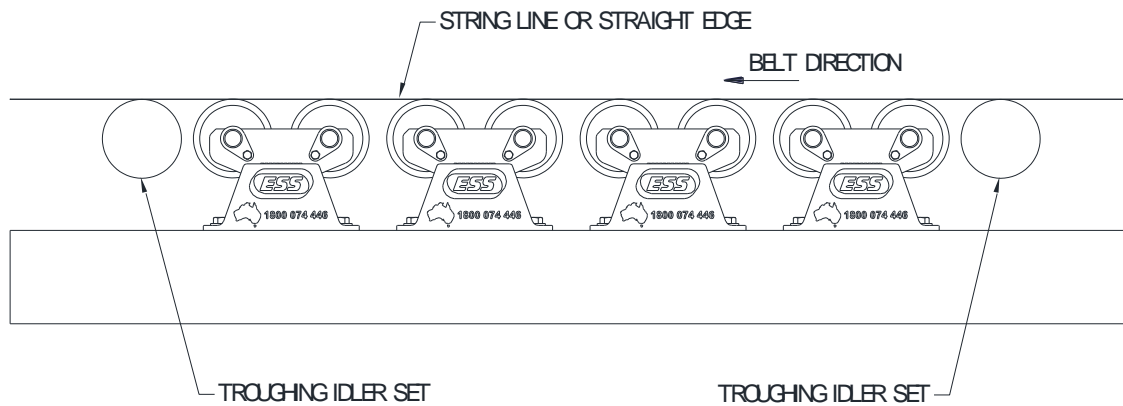

Figure 6 - Cradle Positioning
- Step 11. Using a string line or straight edge ensure that the top of the impact rollers is aligned with the top of the centre rollers of the impact idler frame (Fig 6). If they are not aligned, packing of either the impact cradle base or the impact idler frames may be necessary to achieve this alignment. Please note accelerated bar wear will result from insufficient clearance. Belt damage may result from an excessive clearance due to lack of belt support. Once this alignment is achieved drill bolt holes in the stringers at appropriate position and bolt the cradle base in place. Alternatively, weld in place.